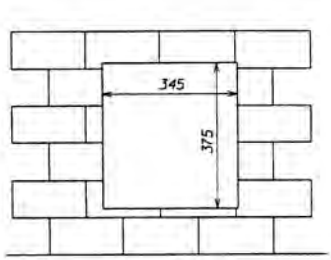
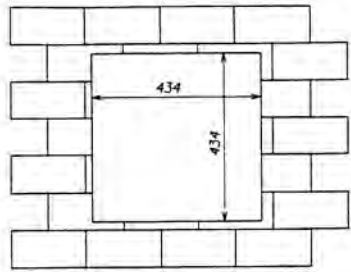

Fig. 1a WX9
Fig. 1b WX12
3. Mark the outline of the hole on the wall as shown in Fig. 1a and Fig. 1b.